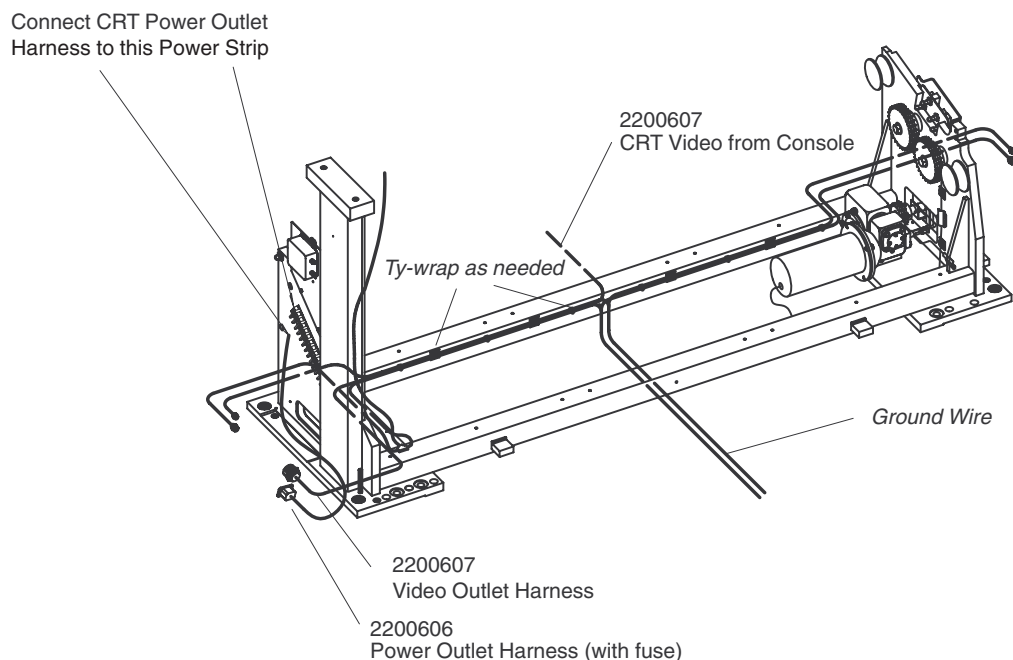

Figure 1-12 Install CRT Power and Video Cables
Refer to Figure 1-12.
- 5.) Refer to Figure 1-12.